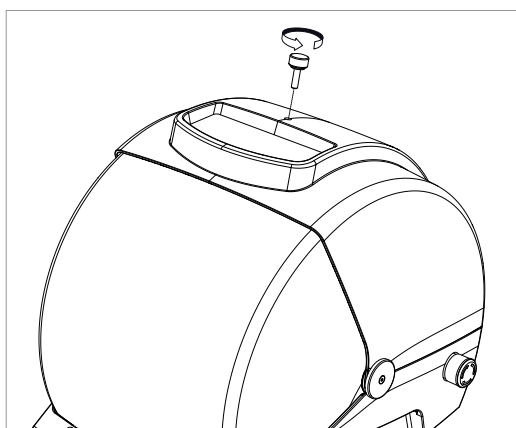

Fig. 13
- 2) Loosen the knob on top of the machine cover (Fig. 13).